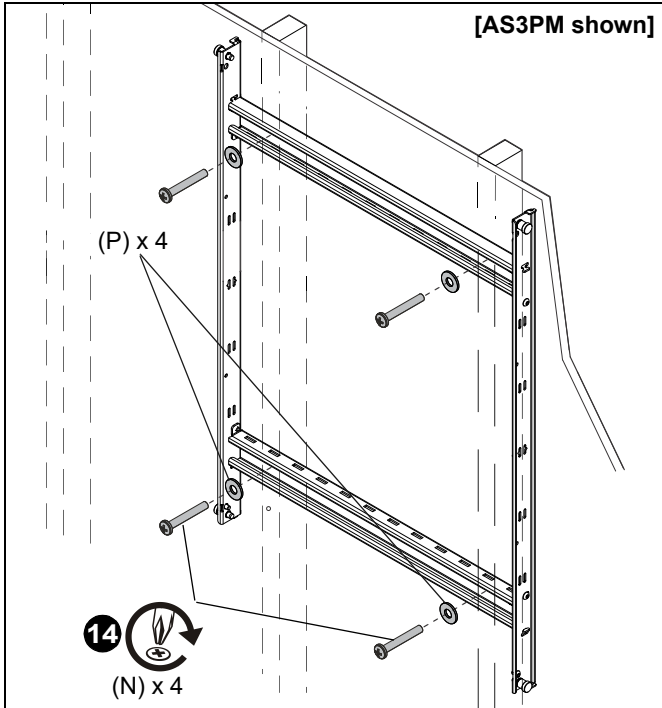

Figure 7
11. Use four 1/4-20 x 2" Phillips pan machine screws (N) and two 1/4" washers (P) to attach the mount to the wall through the upper and lower mounting holes. (See Figure 7)